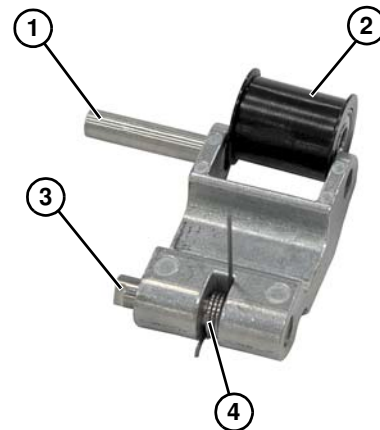

Figure 41
7. Remove roller pin (**Figure 41, item 1**), roller assembly (**Figure 41, item 2**), tensioner axle (**Figure 41, item 3**) and tensioner spring (**Figure 41, item 4**) from tensioner block.